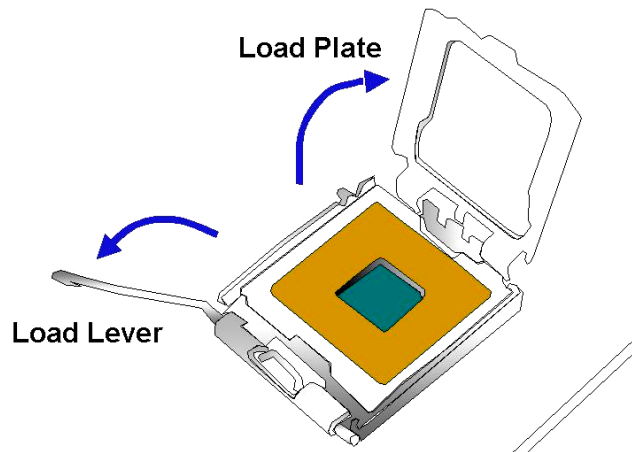

Figure 5-3: Open the CPU Socket Load Plate
Step 2: **Open the socket.** Disengage the load lever by pressing the lever down and slightly outward to clear the retention tab. Rotate the load lever to a fully open position. Then rotate the load plate towards the opposite direction. See **Figure 5-3**.